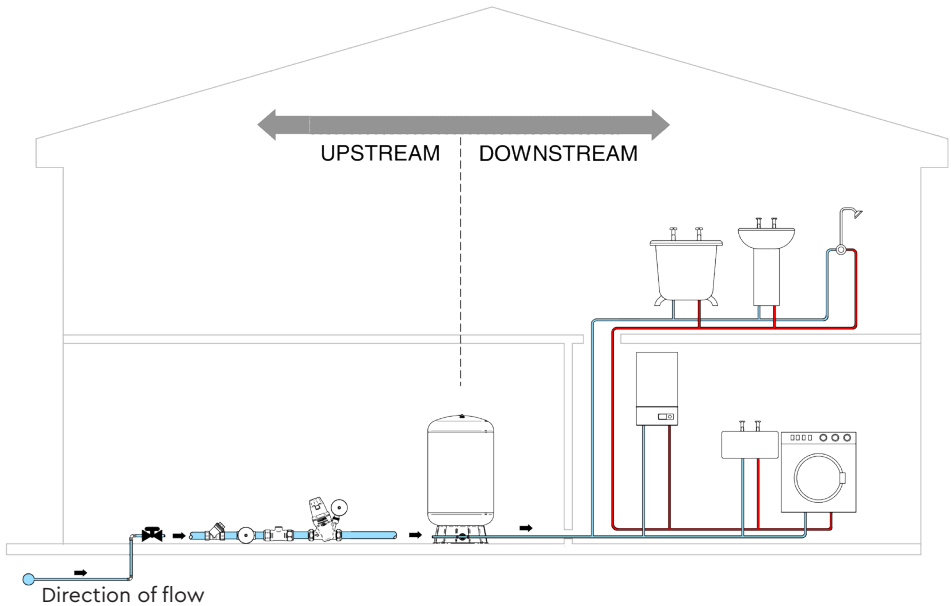

Fig. 4 System designation
3.16 **Direction of flow:** See Fig. 4 to identify the suction and discharge connections.
The term 'Downstream' refers to the system configuration from the outlet tapping on the Mainsboost vessel, along the distribution header (if configured in this way) and into the distribution pipework and outlets. This includes hot and cold services where both are present (see Fig. 4).